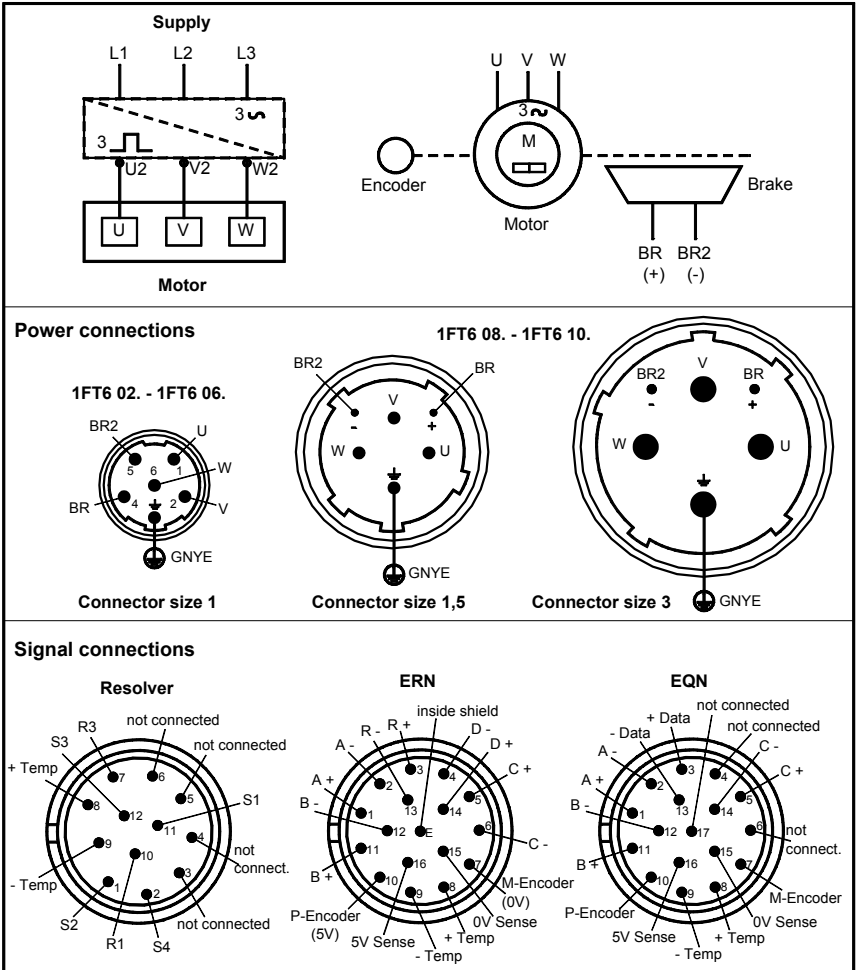

Fig. 6 Connections
- Observe the data on the type plate (section 3.1) and the information in the wiring diagrams (Fig. 6).
2. Assign the plugs according to Fig. 6, connect the PE conductor.
3. Connect the brake via the power plug as shown in Fig. 6.
2. Assign the plugs according to Fig. 6.
- Connect the brake via a power connector (Fig. 6) or a terminal box (Fig. 8).
Apply 24 V DC $\pm 10\%$ to the pins BR, BR2 (Fig. 6, Fig. 8), and ensure that the rotor is running freely (no rubbing noises).